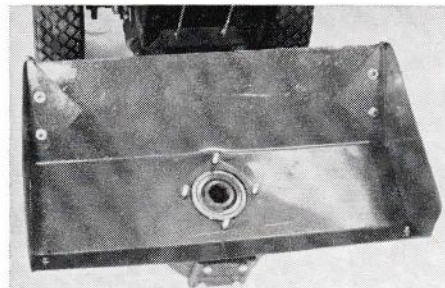

Figure 36
4. Fit the Hood as shown in Figure 36. Insert the Cultivator Drive Shaft into the Gear Housing.